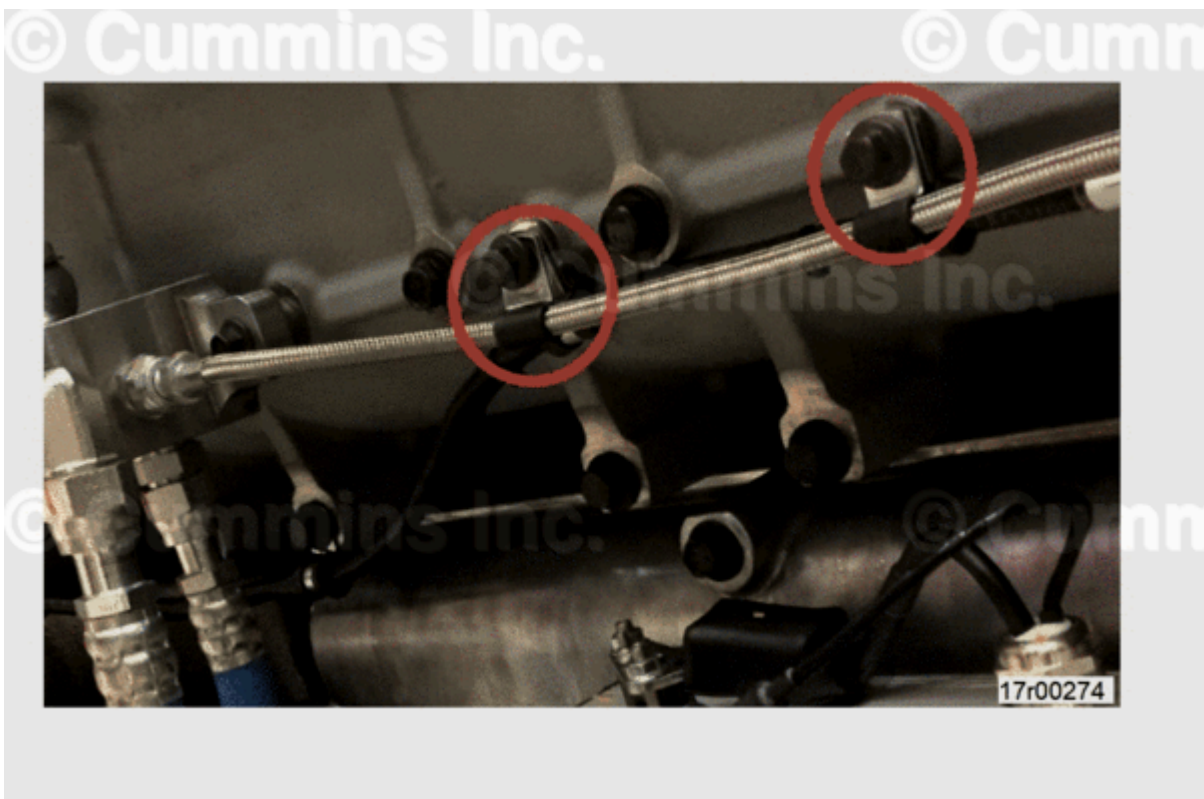

Figure 6, P Clip Locations.
4. Install two new p-clips with capscrews to aftercooler bolt holes in an inboard orientation. Verify wiring harness is **not** interfering with surrounding components. See Figure 6 above.